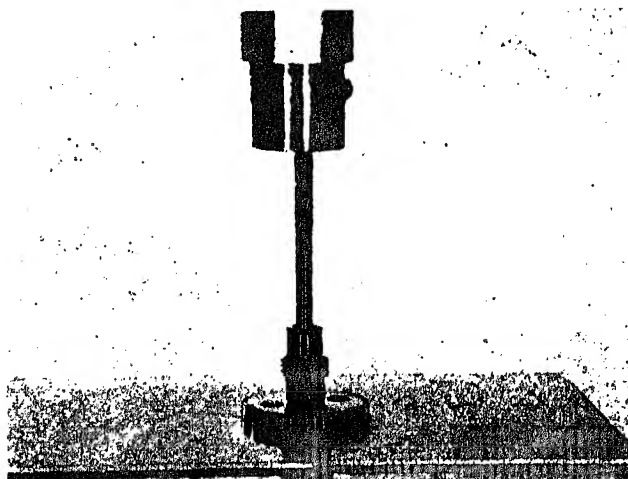

Fig. 506-7 Press tachometer drive gear and governor drive gear
1. Press tachometer drive gear and governor drive gear from drive shaft. Fig. 506-7.
3. Lubricate shaft and bore before pressing tachometer gear on shaft and against governor drive gear. Fig. 506-7.
Note: Check gear to make sure it matches with tachometer gear to give proper rotation see Page 5-3-4. Fig. 506-7.